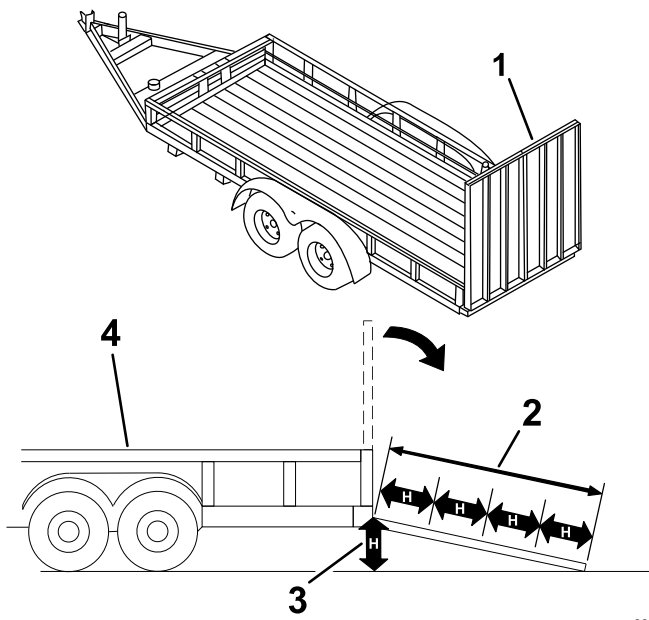

Figure 16
Loading a machine onto a trailer or truck increases the possibility of tip-over and could cause serious injury or death (Figure 16).
3. Lower the ramp (Figure 16).